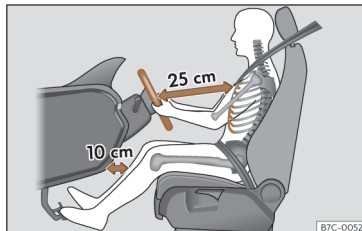

Fig. 2 The correct distance between the driver and the steering wheel must be at least 25 cm (10 inches).
- Move the steering wheel so it is at least 25 cm (10 inches) away from the steering wheel»» Fig. 2 and you can hold it with both hands on both sides, on the outer part, with your arms slightly bent.
bent and with a distance between the knees and the dashboard of at least 10 cm (4 inches)»» Fig. 2.